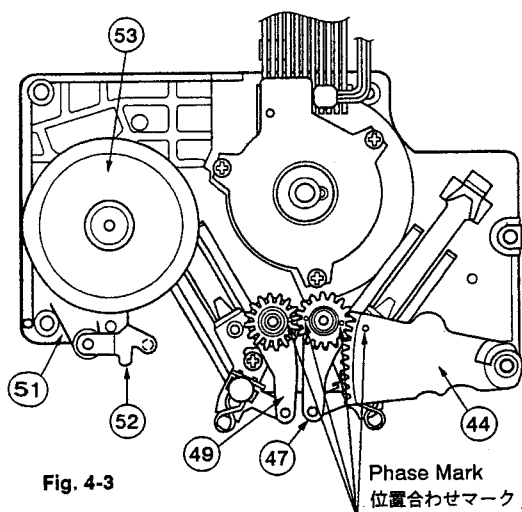

Fig. 4-3
- See that the phases of ④, ④, and ④ are matched with each other, as shown in Fig. 4-3.
- ④, ④, ④ の位相は Fig. 4-3を参照。